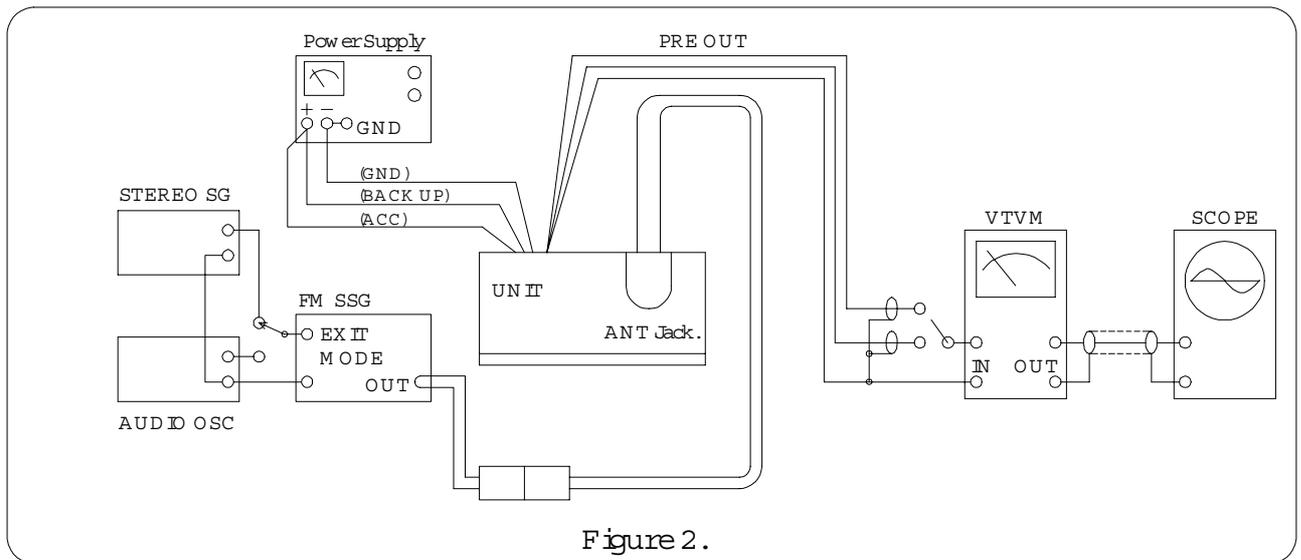

Figure 2.
4. Connect as shown in figure 2.